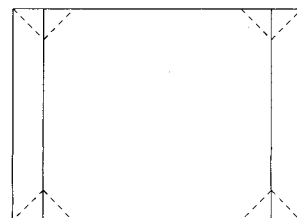

Fig. 5
- Adjust the E-W CORNER to obtain condition as in (fig. 5).